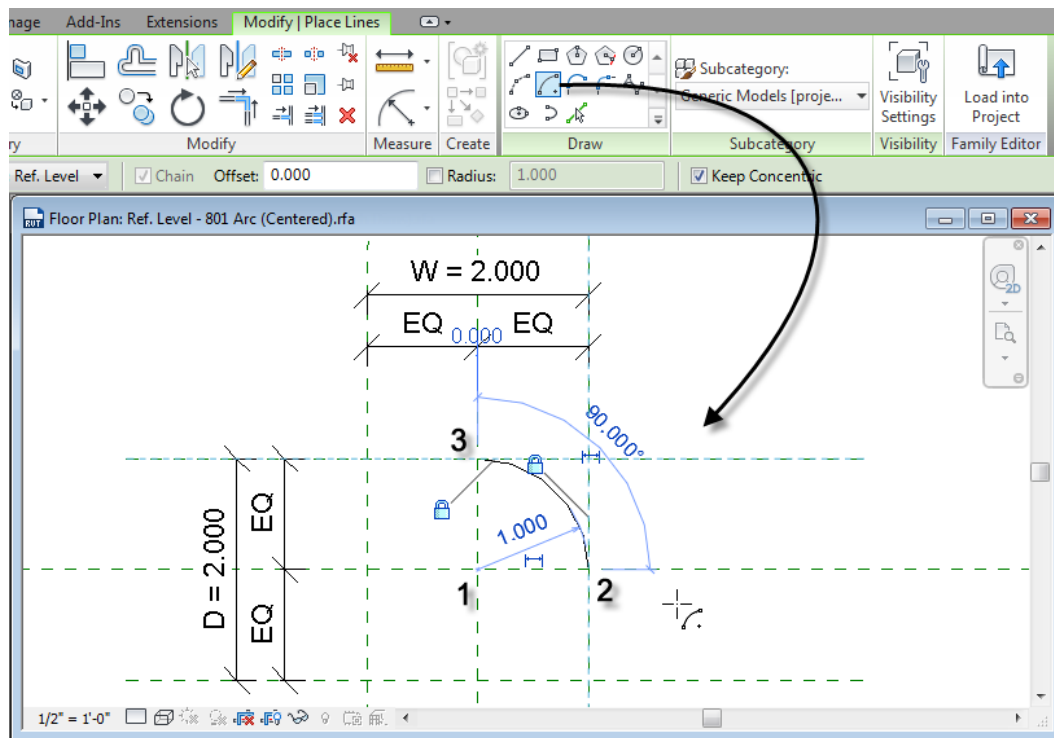

Figure 13—Create a Model Line arc centered on the Reference Planes
7. Close both locks (see Figure 13).